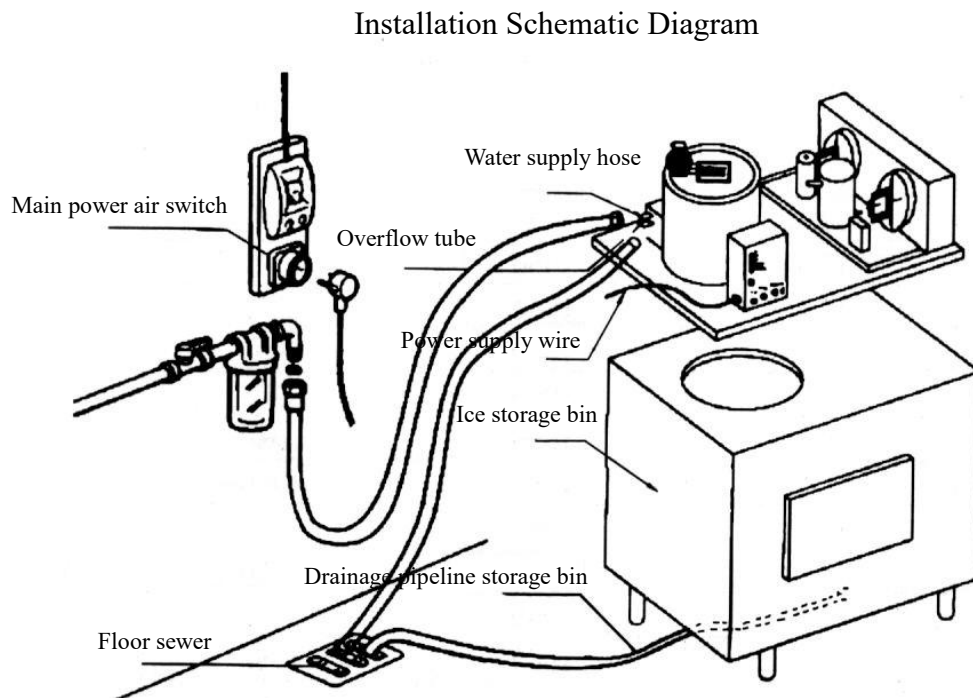

Figure 2
3. Installation Conditions (See figure 2)
- D. The slice ice machine shall not be placed (1) in an airproof environment; (2) next to heat sources; or (3) outdoors.
- (1) Place the slice ice machine on corresponding ice storage bin which is used together with it and fix them with screws. See figure 2.
- (2) Check whether the machine is level or not, and level the machine with leg levellers.
- (3) Connect water supply with a hose.
- (4) Connect the drainage outlet with a spiral hose with a down slope no less than 4cm / m.
- (5) Open the water supply valve.
- (6) Insert the power plug of the machine. The plug connecting wires have three live wires (380V), one zero line and one earth wire. And the earth wire shall be connected to an assigned position on baseboard or in electric case.
- (7) For guaranteeing the slice ice machine in normal and safe operation, please have the machine properly installed and maintained under the guidance of wholesaler or supplier.